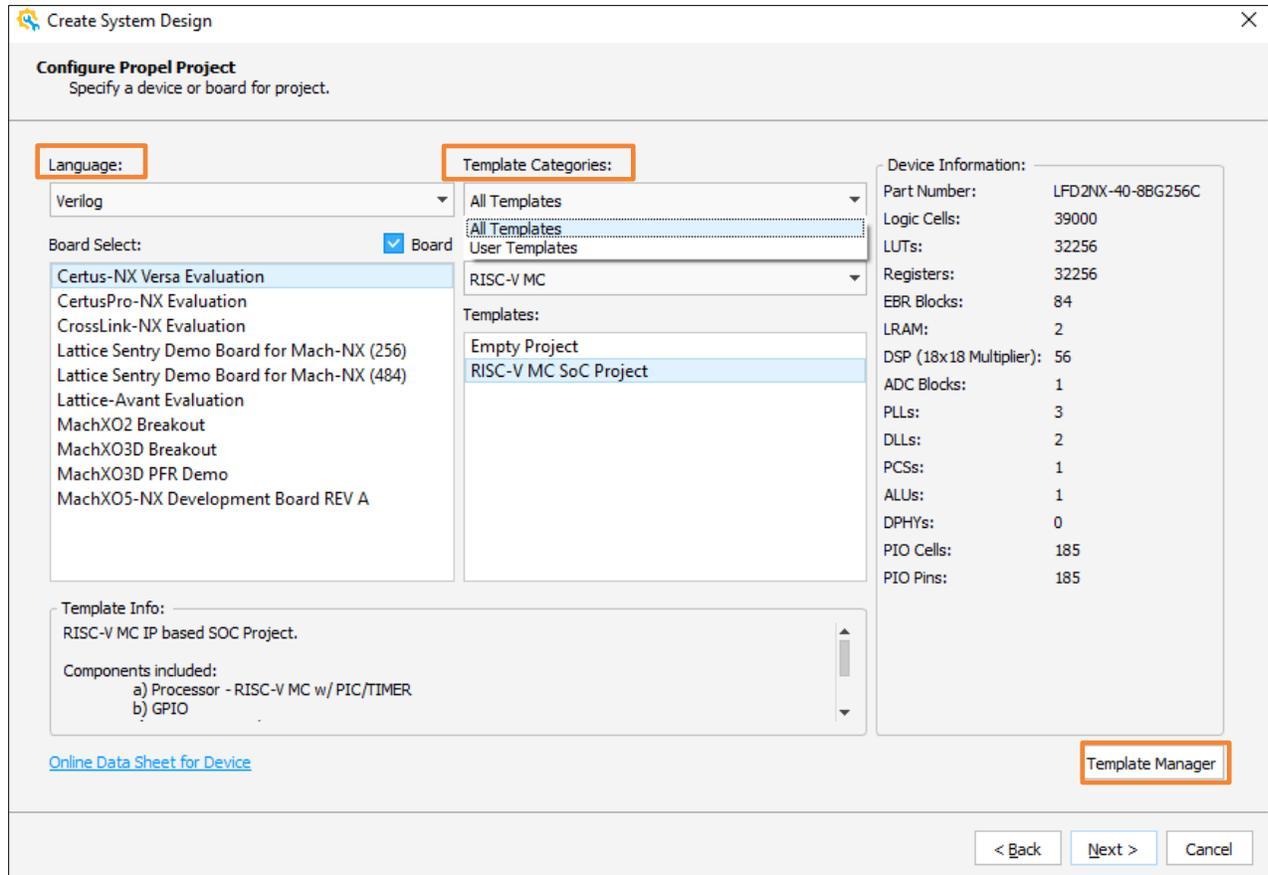

Figure 2.6. Specify a Board for Template SoC Project (2)
5. The Configure Propel Project wizard is shown in Figure 2.6. From the **Board Select** area, select the desired board, such as CertusPro-NX Evaluation.